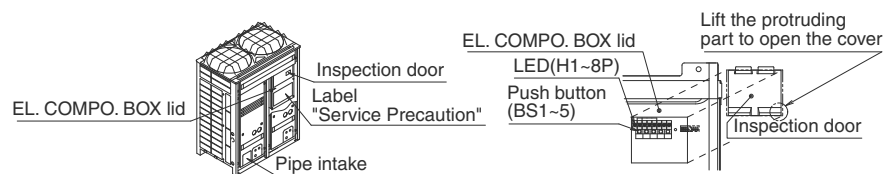
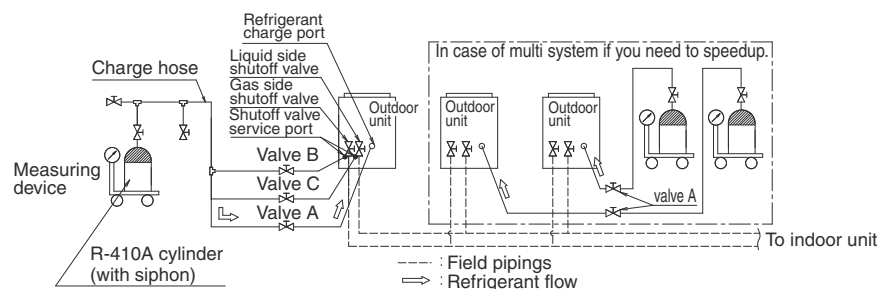

fig 32
fig 33
4. Perform the refrigerant charging operation following [Refrigerant charging operation procedure] as shown in page 139, and charge the remaining refrigerant of the “additional charging amount”. For performing the refrigerant charging operation the push button on the PC-board (A1P) of outdoor unit (In case of multi system master unit) are use. (See the figure 32) In addition, the refrigerant are charged from the refrigerant charge port via the valve A. (See the figure 33)
If you need to speedup in case of multi system, connect the refrigerant cylinders to each outdoor unit as shown in the figure 33.
**STEP1** Open the liquid and gas side shutoff valves (The valve A~C must be closed. The valve A~C means the valves in the figure 33.)